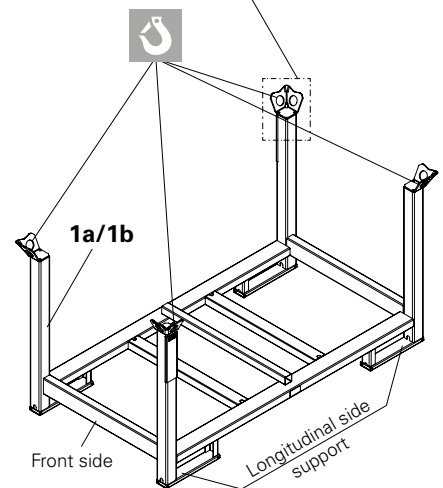

Fig. A1.01
Pallets are one possibility for storing and transporting push-pull props. (Fig. A1.01)
- Use lifting gear combi or 4-sling lifting gear. On each pallet, attach a hook to one load-bearing point (**1.1**). → Four load-bearing points per pallet. (Fig. A1.01)
Pallets (**1a/1b**) can be lifted using the longitudinal as well as the front sides. (Fig. A1.01)